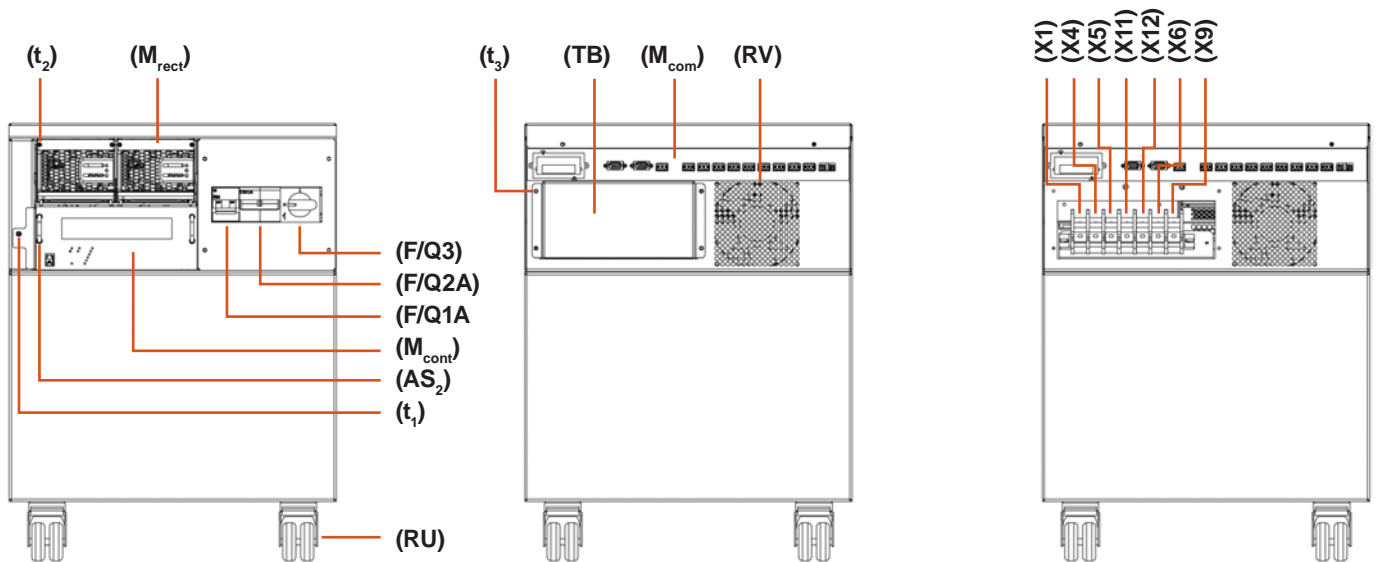

Fig. 4. Case with casters view.
- Case system with capacity to house the batteries. From the table top version, a case with swivel casters can be added to its base, which will allow housing a determined battery set (See Fig. 4).